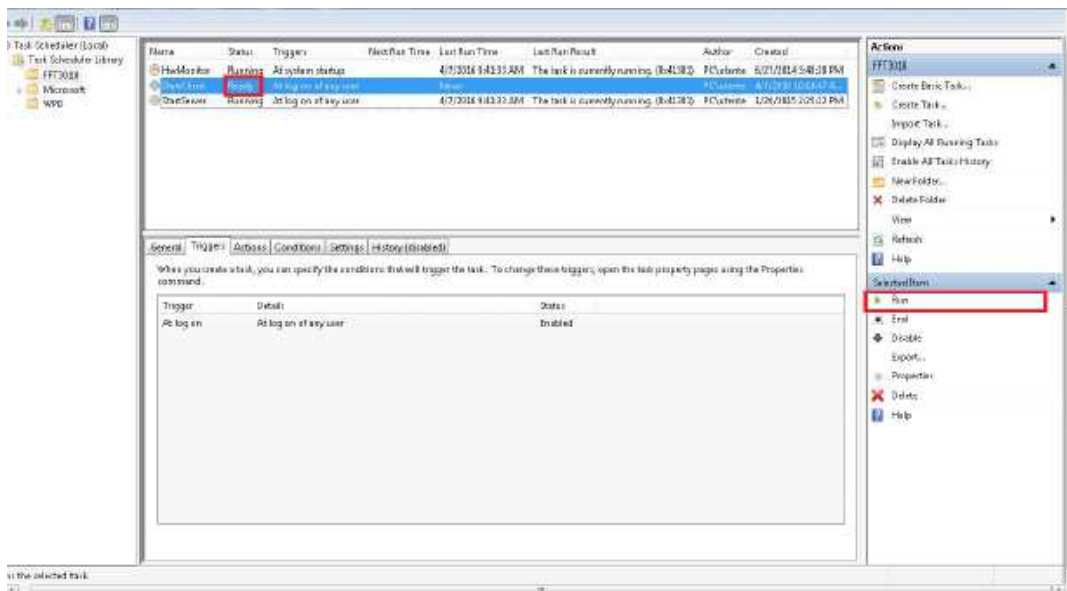

Fig. C.48: Status settings
STEP 17 – Right now the *StartClient* task shall be set in *Running* status. In the central panel of *Task Scheduler* application, the new *StartClient* task is added but *Status* is set to *Ready* according to Fig. C.48. Please execute *Run* in the right panel to modify the status.